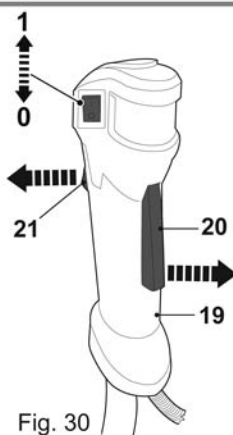

Fig. 30
- > Release the trigger lock [20] and the throttle [21], and let the machine idle for 10 to 15 seconds (Fig. 30).